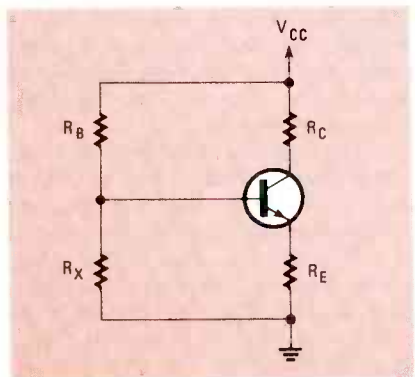
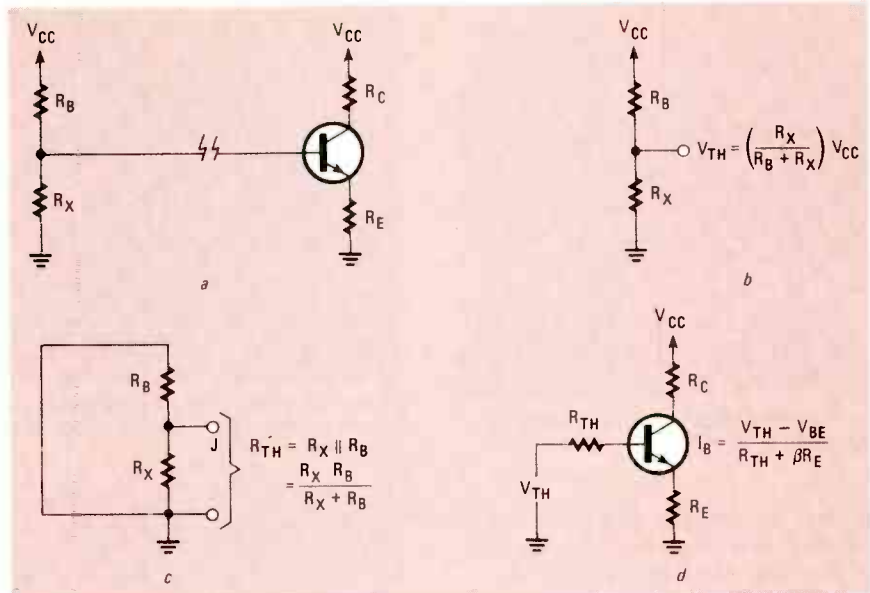

FIG. 3—IF BETTER STABILITY IS REQUIRED, the bias circuit shown here can be used.
FIG. 4—TO EVALUATE THE BASE CURRENT of the circuit shown in Fig. 3, Thevenin's theorem must be used. The steps followed in applying that theorem are shown here.
The bias circuit shown in Fig. 3 is used when stability is a very important consideration. The circuit in Fig. 1, and the variation we created by adding an emitter resistor, are simplified versions of that circuit. In it,  $V_{BB}$  has been eliminated; instead,  $V_{CC}$  is used as both the collector and base supply.
*Thevenin's theorem* must be used in order to determine the base current in the circuit in Fig. 3. That theorem states, in part, that any network of voltage sources and resistances can be simplified to a single voltage source in series with a single resistance. Use the following steps to apply that theorem to the circuit. Those steps are shown in Fig. 4.
First, as shown in Fig. 4-a, separate the bias resistor circuit from the rest of the circuit.
The second step, as shown in Fig. 4-b, is to determine the voltage at the junction of  $R_B$  and  $R_X$ . That voltage is called the *Thevenin voltage*,  $V_{TH}$ , and, since  $R_B$  and  $R_X$  make up a simple voltage divider, is
The third step, as shown in Fig. 4-c, is to short the supply to ground and determine the *Thevenin resistance*,  $R_{TH}$ . That is the resistance seen when looking back toward  $R_X$ ; in other words, the resistance between the junction "J" and ground. In this case, it is the parallel combination of  $R_X$  and  $R_B$ , which, of course, is equal to  $R_X R_B / (R_X + R_B)$ .
The fourth, and final step, shown in Fig. 4-d, is to reconstruct the original circuit, substituting  $V_{TH}$  for  $V_{CC}$ , and  $R_{TH}$  for  $R_B$  and  $R_X$ . The Thevenin voltage,  $V_{TH}$ , and the Thevenin resistance,  $R_{TH}$ , are connected in series with the base of the transistor as shown. The base current can now be calculated from the formula:
factors, a desirable result. In determining the operating point, the simplest approach is to again use Thevenin's theorem. Just adapt the method described for the circuit in Fig. 3 to this circuit, using the value of  $V_{CE}$  that you are designing for instead of  $V_{CC}$ . A reasonably accurate formula for determining collector current is shown as equation 13. Note that  $R_C$  and  $I_{CBO}$  are included in the equation. Stability factors for this circuit are shown in equations 14, 15, and 16.
Those current and stability equations can be applied easily, with just slight modifications, to the circuit in Fig. 3. In equations 13 through 16,  $R_C$  is an important factor in determining the bias. It plays no part, however, in determining the stability and quiescent current for the circuit in Fig. 3. When applying those equations to that circuit, let  $R_C$  equal 0. That eliminates all terms containing  $R_C$ . If, in addition to setting  $R_C$  equal to 0,  $R_X$  was made infinite by removing it from the circuit and  $R_E$  was made equal to 0, or